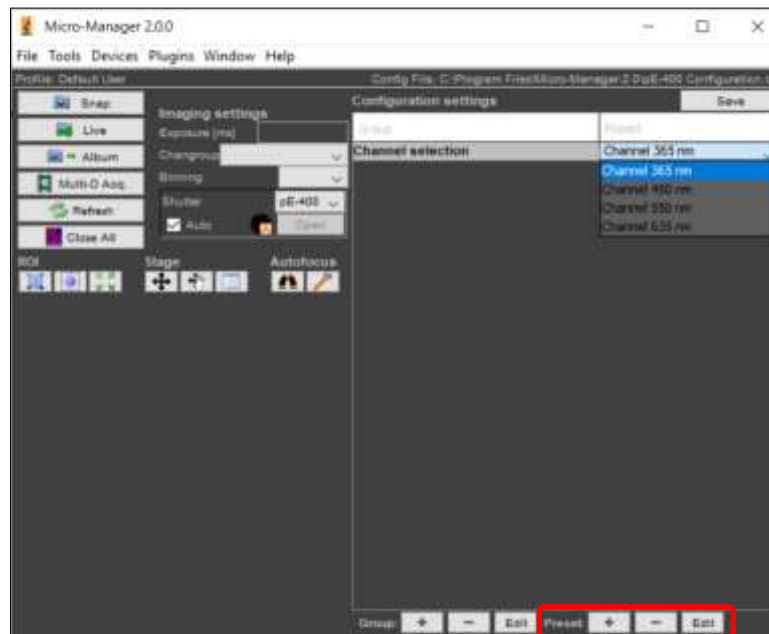

Figure 15: View and select presets in dropdown menu under 'Preset'. Add, remove, or edit presets using buttons circled in red
5. To add, remove or edit Presets, use the icons circled in red (Figure 15).